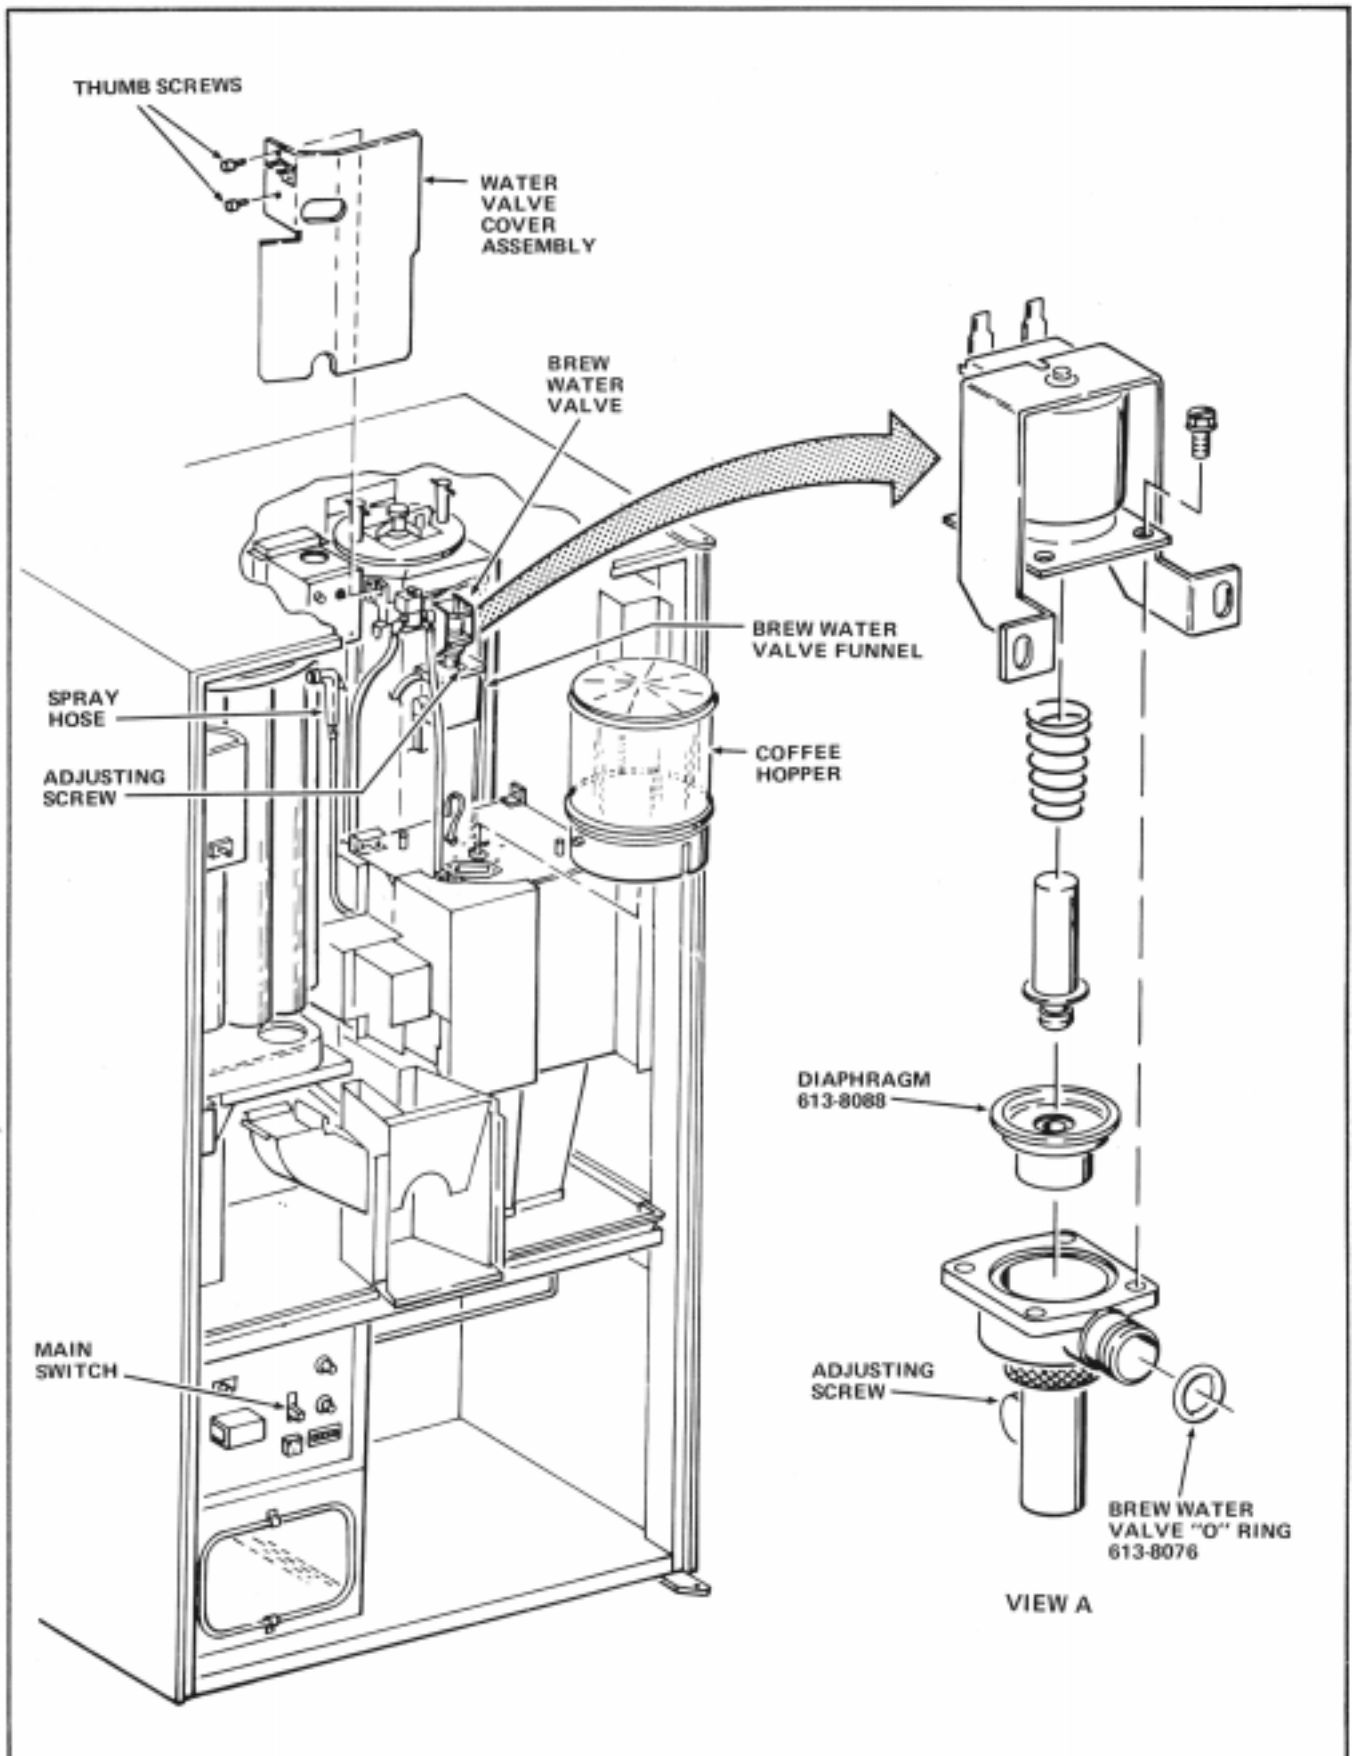

FIGURE 1
2. Move the Main Switch in the Merchandiser to the OFF position. See Figure 1.
3. Remove the Coffee Hopper from the Merchandiser. See Figure 1.
4. Drain approximately two gallons of water from the Water Tank with the Spray Hose. See Figure 1.
5. Remove two Thumb Screws and the Water Valve Cover Assembly from the Merchandiser. See Figure 1.
6. Remove the Overflow and Detergent Pump Tubes from the side of the Brew Water Valve Funnel. See Figure 1.
7. Loosen the two screws attaching the Brew Water Valve Funnel to the Water Tank Jacket. See Figure 1.
8. Pull the Brew Water Valve Funnel down and to the left. See Figure 1.
Do not turn the Adjusting Screw on the Brew Water Valve. See Figure 1.
9. Disconnect the two wires on top of the Brew Water Valve. See Figure 1.
10. Remove the Brew Water Valve from the Merchandiser by removing the two screws attaching it to the Water Tank Jacket. See Figure 1.
11. Remove the Brew Water Valve "O" Ring from the Brew Water Valve. See Figure 1 View A.
12. Remove the four screws attaching the upper and lower halves of the Brew Water Valve. See Figure 1 View A.
13. Remove the Diaphragm from the Brew Water Valve. See Figure 1 View A.
1. Install the replacement "O" Ring. See Figure 1 View A.
2. Install the replacement Diaphragm so that it rests cleanly in the grooves of the Brew Water Valve. It must operate cleanly when assembled. See Figure 1 View A.